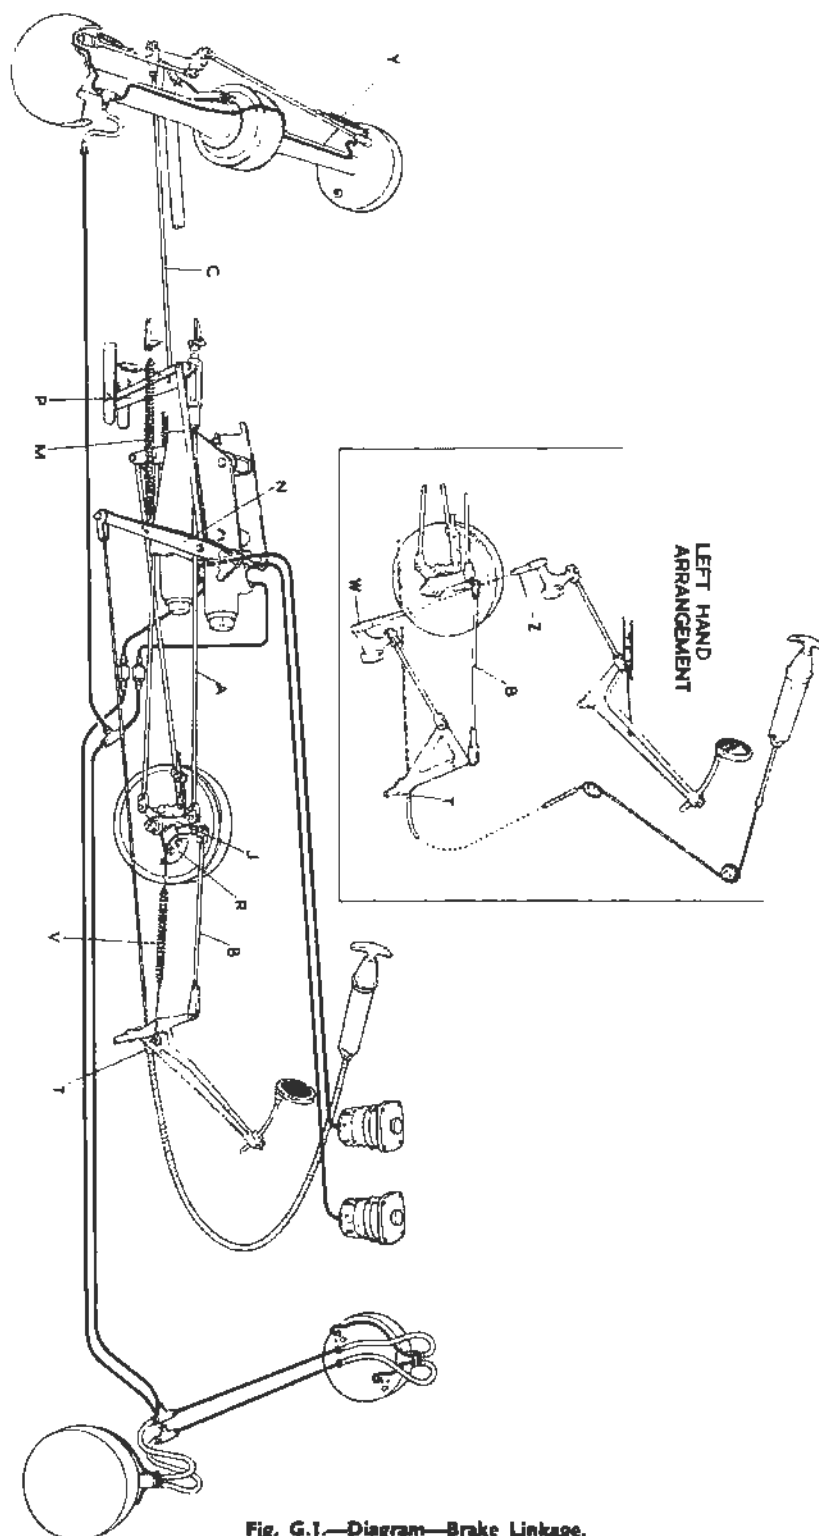

Fig. G.1.—Diagram—Brake Linkage.
Fig. G.1 shows the brake linkage for a right-hand drive car with the modifications necessary for a left-hand drive model shown inset. A pull rod (B) operated by the pedal is coupled to a lever on the servo motor shaft, the motor itself being mounted on the right-hand side of the gearbox and driven at approximately one-fifth of the propeller shaft speed. The lever has inclined cams formed on the face to its boss which engage through the medium of steel balls with similar cams formed on the boss of a second lever (J). From the latter, rod (A) actuates the rear brakes through an intermediate lever which is pivoted on a bracket bolted to the crossmember of the frame, through the rod (C) and rear equaliser mounted on a bracket suspended from the rear axle.